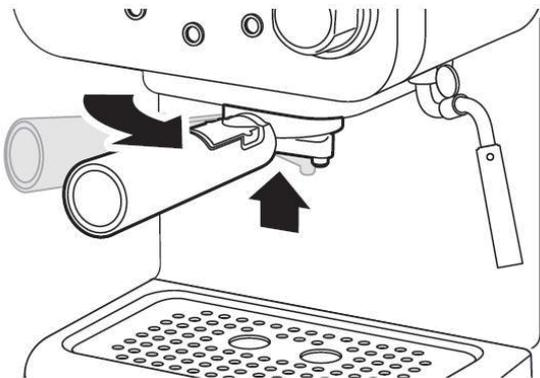

Fig.2
6. Fit the filter holder into the espresso machine. Angled the lever towards to the left, then turn the lever to the right until it locks. Release the grip, the filter holder must seat securely in the bracket and point forwards at a 90° angle (refer to **Fig.2**).
2. Insert the filter holder into the espresso machine from underneath. For this, the lever must be angled towards the left (refer to **Fig. 2**) and then inserted into the espresso machine.
3. Slide the lever to the right, as far as it will go. It must be seated securely in the bracket and point forwards at a 90° angle as shown on **Fig 2**.
- Insert the filter holder into the espresso machine from underneath. For this, the lever must be angled towards the left (refer to **Fig. 2**).
7. Slide the lever to the right, as far as it will go. It must be seated securely in the bracket and point forwards at a 90° angle as shown on Fig 2.